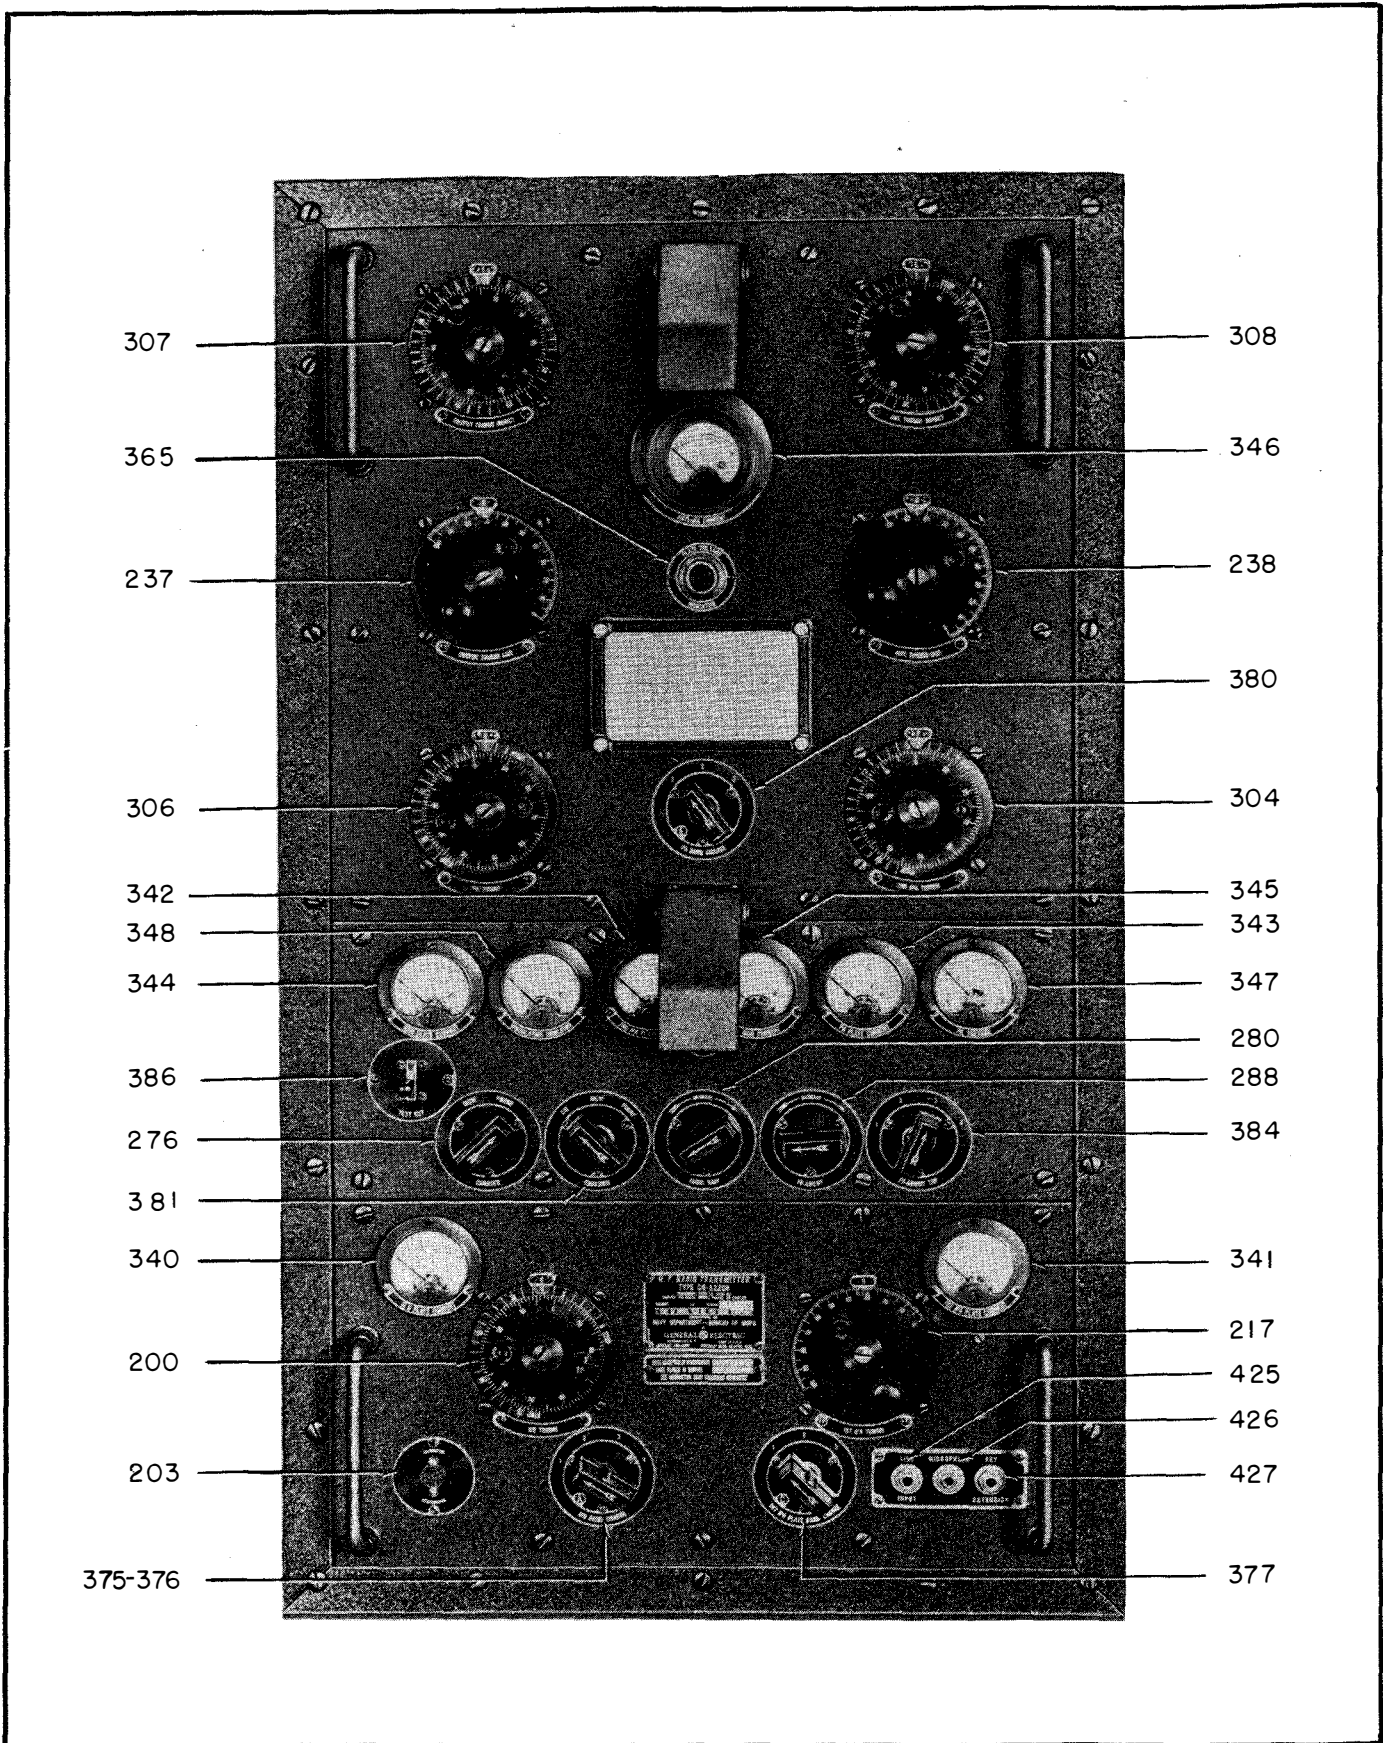

Figure 7-10. H-f Radio Transmitter Navy Type CG-52206, Front View
5b. Filament rheostat of h-f transmitter (288, figure 7-10) for filament rheostat of if transmitter (515, fig. 7-17) open.	5b. Place rheostat (s) in operating position. Repair or replace defective filament rheostat (s).
10c. Interlock contacts on p-a band-change switch (380, figure 7-10) of h-f transmitter or interlock contacts on p-a band-change switch (551, figures 7-17 and 7-22) of i-f transmitter not closed properly.	10c. Correct condition preventing proper closure of contacts.
11b. Contacts of m-o band-change switch (375, figure 7-10) require adjustment or cleaning.	11b. Clean and adjust these contacts.
11c. M-o tuning capacitor (200, figure 7-10) defective due to bent plates or collection of dust and foreign matter between plates.	11c. Replace m-o tuning capacitors.
11d. M-o calibration capacitor (203, figure 7-10) defective due to bent plates or collection of dust and foreign matter between plates.	11d. Replace m-o calibration capacitor.
12b. Contacts of first i-p-a grid band-change switch (376, figure 7-10) require adjustment or cleaning.	12b. Clean and adjust these contacts.
12c. First i-p-a grid band-change switch (376, figure 7-10) not in correct position for desired operating frequency.	12c. Set switch in correct position.
12d. Contacts of first i-p-a plate band-change switch (377, figure 7-10) require adjustment or cleaning.	12d. Clean and adjust these contacts.
12e. First i-p-a plate band-change switch (377, figure 7-10) not in correct position for desired operating frequency.	12e. Set switch in correct position.
12f. First i-p-a tuning capacitor (217, figures 7-10 and 7-14) defective due to bent plates or collection of dust and foreign matter between plates.	12f. Replace this capacitor.
12g. Defective m-o plate milliammeter (340, figure 7-10).	12g. Inspect for loose or improper external connections. Replace defective meter (340).
12h. Defective first i-p-a plate milliammeter (341, figure 7-10).	12h. Inspect for loose or improper external connections. Replace defective meter (341).
13b. Contacts of second i-p-a band-change switch (380, figure 7-10) require adjustment or cleaning.	13b. Clean and adjust contacts.
13c. Second i-p-a band-change switch (380, figure 7-10) not in correct position for desired operating frequency.	13c. Set switch in correct position.
13d. Second i-p-a tuning inductor (304, figures 7-10, 7-11, and 7-14) defective due to accumulation of dust and foreign matter at moving contact points.	13d. Clean moving contacts with carbon tetrachloride or equivalent.
14b. Contacts of p-a band-change switch (380, figure 7-10) require adjustment or cleaning.	14b. Clean and adjust contacts.
14c. P-a band-change switch (380, figure 7-10) not in correct position for desired operating frequency.	14c. Set switch in correct position.
14d. P-a tuning inductor (306, figures 7-10, 7-12, and 7-15) defective, due to accumulation of dust and foreign matter at moving contact points.	14d. Clean moving contact points with carbon tetrachloride or equivalent.
14e. Defective p-a grid milliammeter (345, figure 7-10).	14e. Inspect for loose or improper external connections. Replace defective meter (345).
14f. Defective p-a plate milliammeter (343, figure 7-10).	14f. Inspect for loose or improper external connections. Replace defective meter (343).
15b. Output capacitor (237, figures 7-10, 7-12, 7-13, and 7-15) defective, due to bent plates or collection of dust and foreign matter between plates.	15b. Replace defective capacitor.
15c. Antenna inductor (308, figures 7-10, 7-11, and 7-14) defective, due to bent plates or collection of dust and foreign matter between plates.	15c. Replace defective inductor.
15d. Antenna capacitor (238, figures 7-10, 7-11, 7-13, and 7-14) defective, due to bent plates or collection of dust and foreign matter between plates.	15d. Replace defective capacitor.
15g. Antenna ammeter (346, figure 7-10) defective.	15g. Inspect for loose or improper external connections. Replace defective ammeter (346).
16b. Contacts of emission switch (381, figures 7-10, 7-13, 7-14, and 7-15) require adjustment or cleaning.	16b. Clean and adjust contacts.
16c. Microphone jack (426, figure 7-10) defective.	16c. Clean and adjust. Replace if defective.
16d. Carrier control (276, figures 7-10 and 7-15) incorrectly set, or moving contact dirty, out of adjustment, or defective.	16d. Set carrier control correctly. Clean and adjust moving contact, or replace if defective.
16e. Audio gain control (280, figure 7-10) incorrectly set, or moving contact dirty, out of adjustment, or defective.	16e. Set audio gain control correctly. Clean and adjust moving contact, or replace if defective.
16f. Modulation indicator meter (348, figure 7-10) defective.	16f. Inspect for loose or improper external connections. Replace defective meter (348).
16g. Modulator plate milliammeter (344, figure 7-10) defective.	16g. Inspect for loose or improper external connections. Replace defective meter (344).